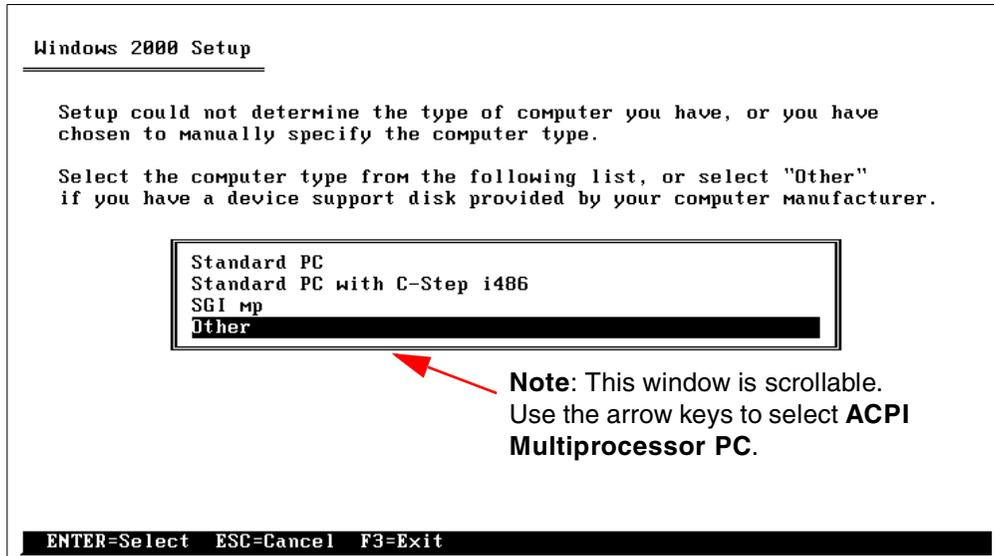

Figure 49. Processor options
2. After a few additional screens, Figure 49 appears: